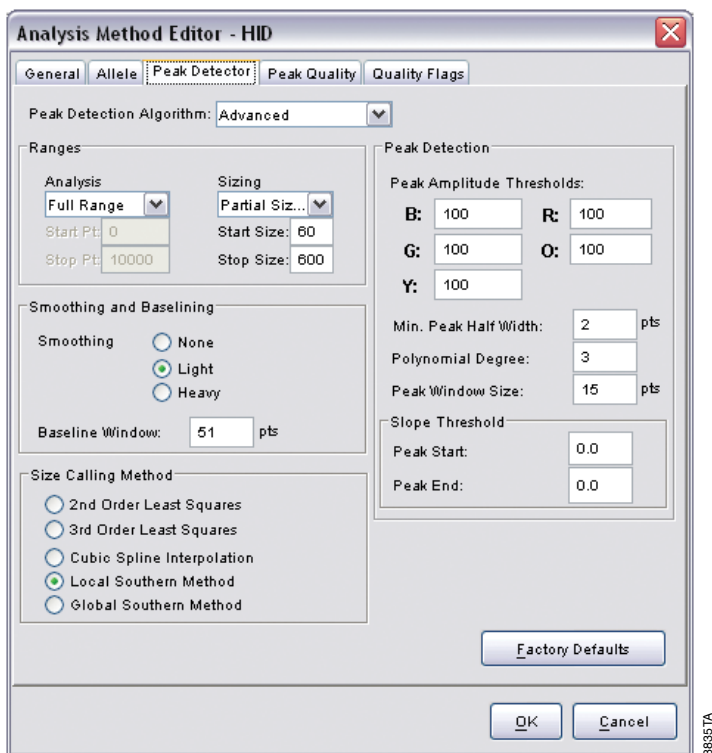

Figure 16. The GeneMapper® ID ‘Peak Detector’ tab.
10. Select the ‘Peak Detector’ tab. We recommend the settings shown in Figure 16.